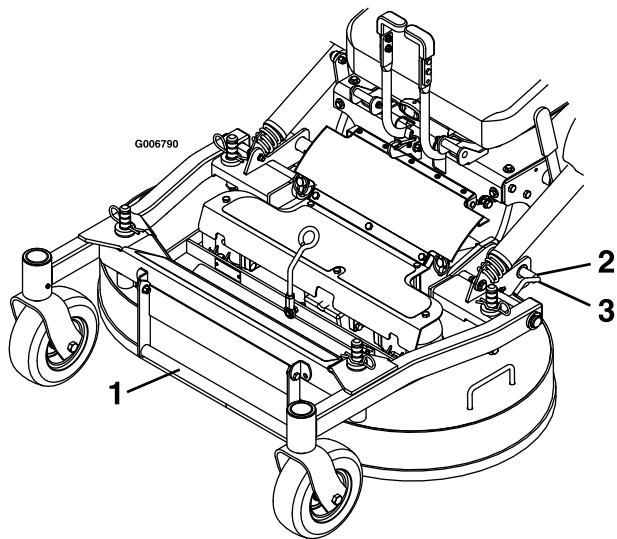

Figure 19
- Release the mower deck locking pins on each side (Figure 19).
2. Push the deck locking pins inward and rotate them forward to securely lock the mower deck in the lowered position (Figure 19).